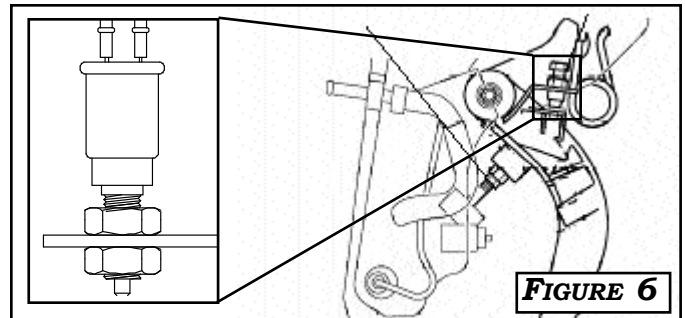

FIGURE 6
5) FOR MANUAL TRANSMISSION TACOMA ONLY: REPLACE CLUTCH PEDAL STOP BOLT WITH ROSTRA CLUTCH DISENGAGEMENT SWITCH. ATTACH CLUTCH HARNESS TO CLUTCH DISENGAGEMENT SWITCH. **FIGURE 6**